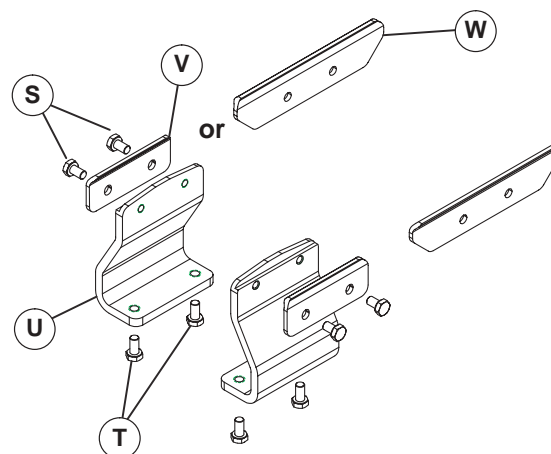
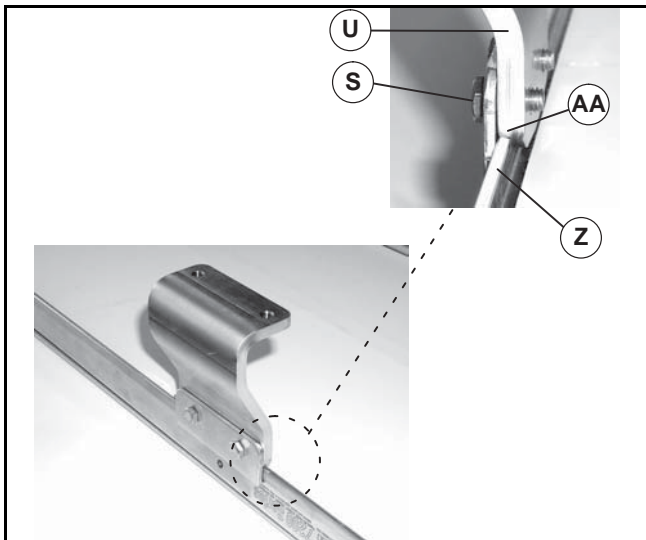

Figure 9
Figure 10
Conveyor may be mounted using mounting brackets as shown in Figure 9 and Figure 10 or directly to support stands. For direct support stand mounting, see stand manual.
1. Typical mounting bracket components (Figure 9) (One Pair).
2. Attach clamp plate (Figure 9, item V or W) to stand/conveyor ear mount bracket (U) with two screws (S). Do not tighten screws.
3. Attach stand/conveyor ear mount bracket (Figure 10, item U) to bottom of conveyor (Z). Make sure notch (AA) on bracket straddles conveyor edge as shown. Snug-up two screws (S).